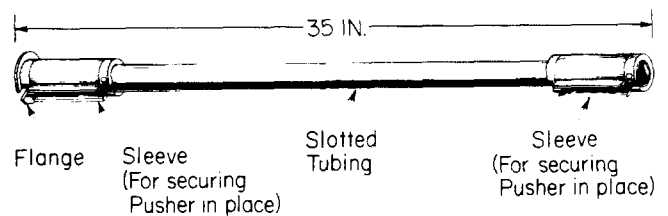

Fig. 7—C Cable Block Pusher
5.01 **C Cable Block Pusher:** The C cable block pusher (Fig. 7) is used with K cable blocks when lashing an initial cable by placing it on the suspension strand ahead of the cable lasher. The circular flange bears against the strand hook on the cable block and pushes the block along the strand in the direction the lasher is being pulled.